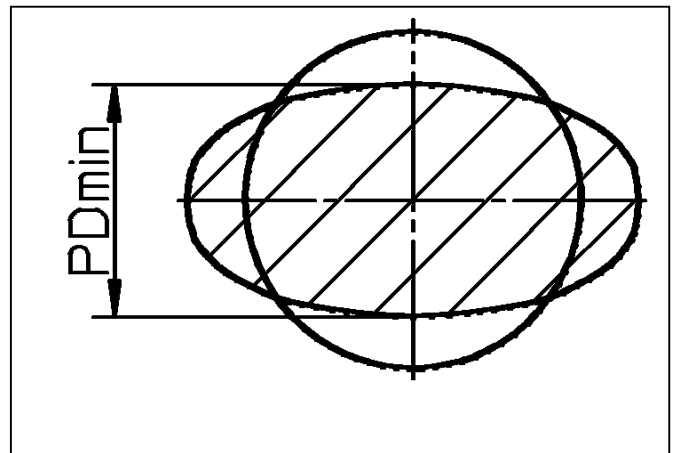

Fig. 14
- If the coupling has a distinct torsional backlash, or if the minimum buffer thickness (PD_{min} , Fig. 14) according to table 12 is reached, we recommend to replace the elastic buffers.